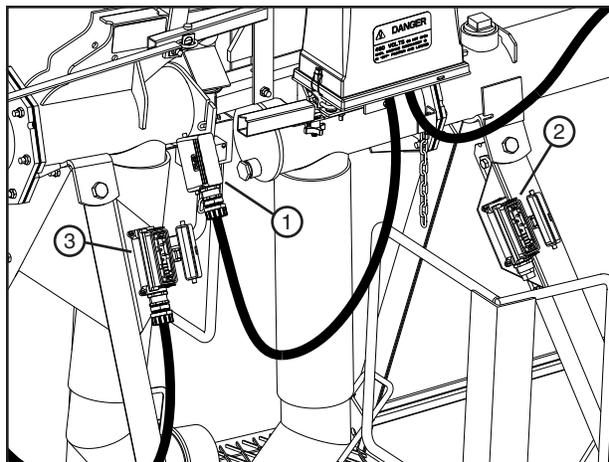

Figure 32-1 1. Span Cable
13. Unplug the span cable from the inner span electrical socket. See Figure 32-1.
14. Unlock the weather tight guard and plug the span cable into the outer span electrical socket, locking it in place. See Figure 32-1.
15. Close and lock the weather tight guard on the inner span electrical socket. See Figure 32-1.